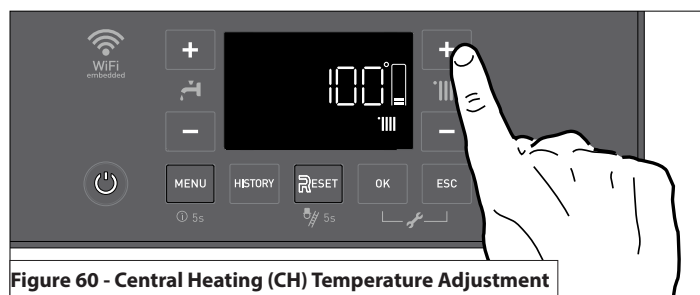

Figure 60 - Central Heating (CH) Temperature Adjustment
C. Central Heating (CH) Temperature Adjustment
It is possible to adjust the central heating (CH) temperature setpoint from the home screen by pressing the CH +/- buttons. See Figure 60. The allowable operating range is limited by the Max and Min Temperature Settings (e.g., Parameters 4.2.5 and 4.2.6) which are adjustable via the Technical Menu. See P. Technical Menu - Access and Navigation.